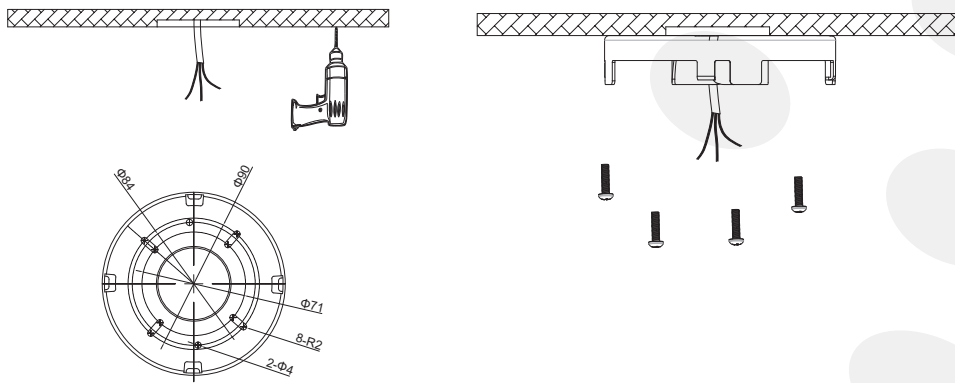

Figure 4
2. Mark with a mark pen or sharp tool on the mounting surface and drill, make them match to the holes on the fixture (Figure 4).